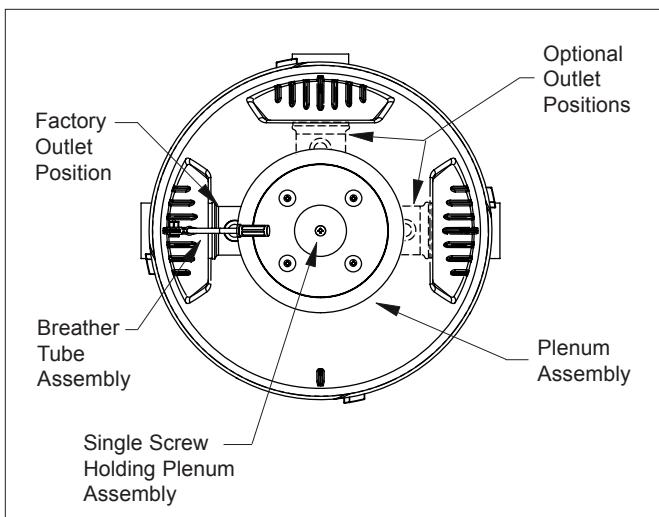

Figure 3. Tank Bottom, Interior View from Top
- 1.8 Remove the single screw holding the Plenum in place. Grasp the Plenum Adapter and pull the assembly out of the tank (see Fig. 3). Remove the tank bottom from equipment pad.